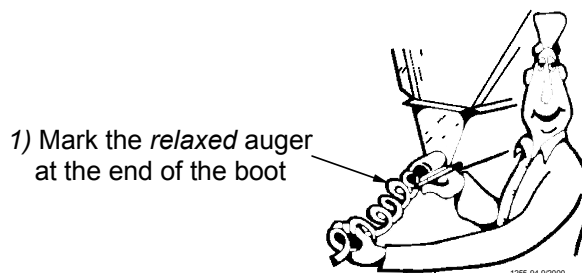

Figure 44. Measure the Auger from the relaxed position
10. Pull the auger at the boot end until it begins stretching. Then let it relax. In the *relaxed* position, mark the auger at the end of the boot. See Figure 44.
1. Wire the Mid-Line Control as shown in the wiring diagram section of this manual. The Mid-Line Control makes it possible to operate the feeding system when birds are confined away from the End Control Unit. Chore-Time recommends placing the Mid-Line Control Feeder at least 2 pans away from the curtain or partition. See **Figure 44**.